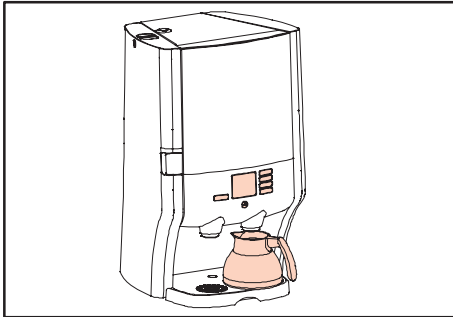

Fig. 15 Place a pot under the outlet
1. Place a pot under the right-hand outlet (fig. 15).